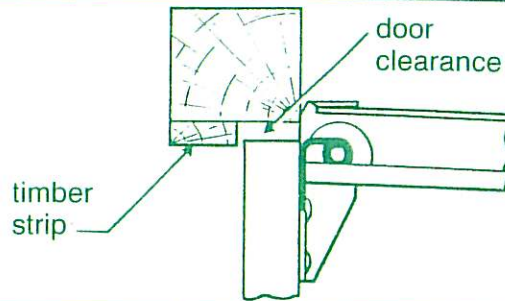

Fig. 12
- 15.** The clearance at the top of the door can be weathered with a 13 mm (1/2") maximum thickness timber batten (19 mm (3/4") maximum on metal doors). The bottom clearance can be weathered with No. 198 weatherseal (metal and timber doors only – NOT glass fibre doors). See Fig. 12.